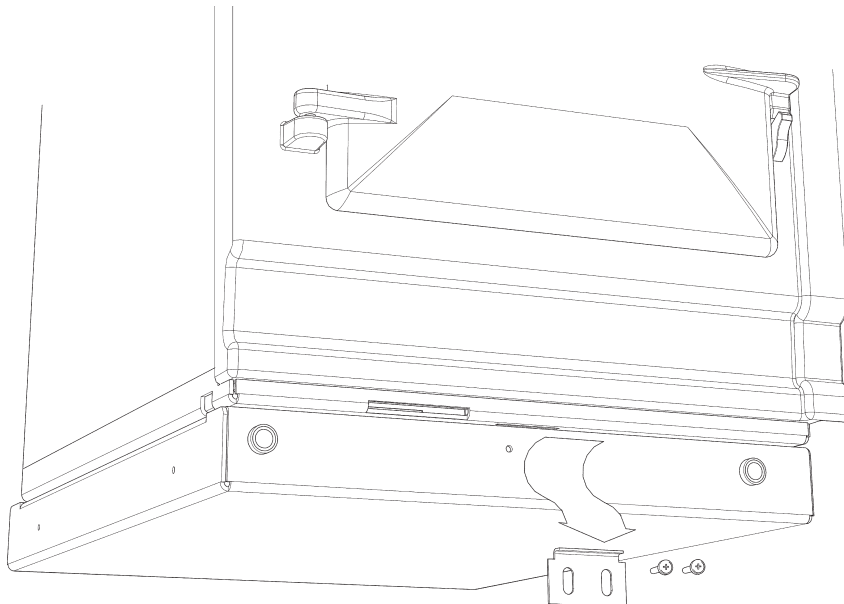
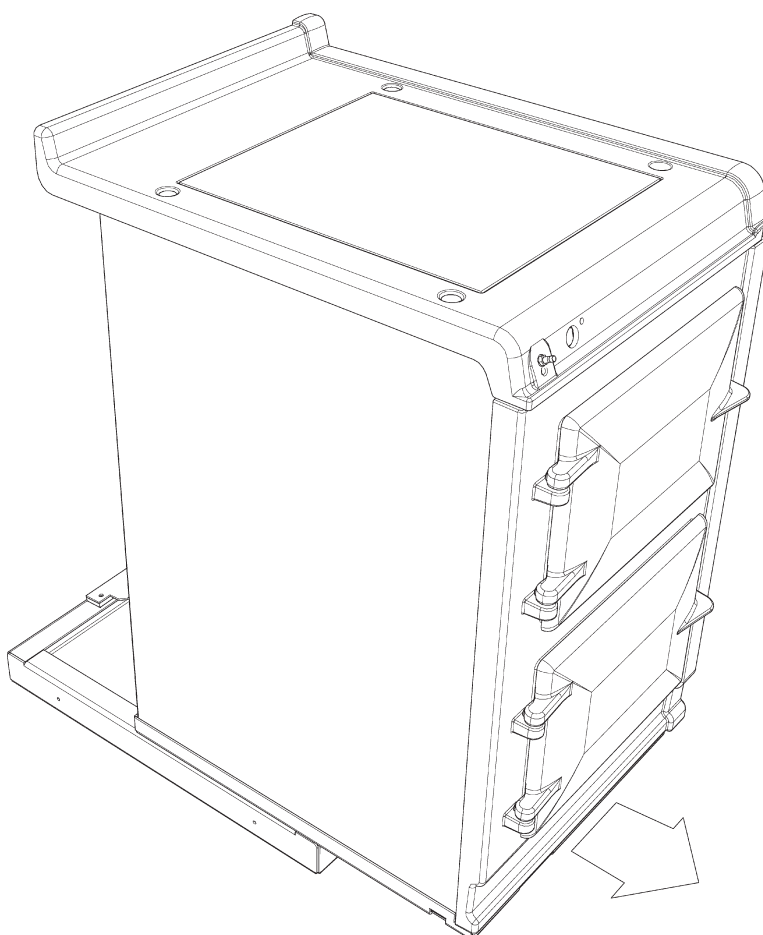

Fig. 14
Fig. 15
1. Detach hotcupboard from plinth by removing two screws and tongue bracket from plinth (See Fig. 14), slide hotcupboard forwards and away from rear fixing bracket (See Fig. 15).